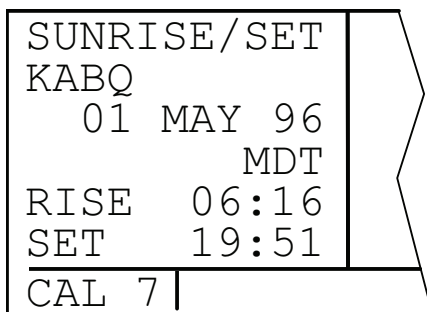

Figure 3D-102. CAL 7 Page
g. The Calculator 7 Page. The CAL 7 page is used to display the times of sunrise and sunset for any waypoint in the published or user database. Refer to Figure 3D-102. It can do this for any date up to 31 December 2087.